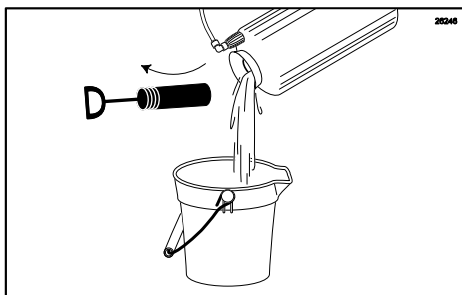

Figure 107
3. Empty all the sanitizer solution from the Sanitizer Tank. (See Figure 107.)